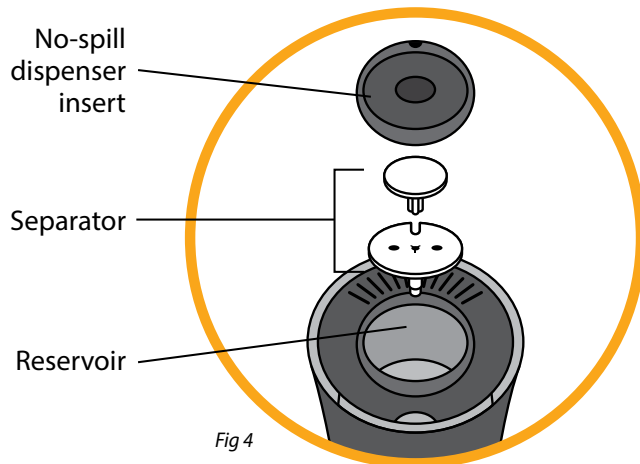

Fig 4
6. Remove the separator by pulling it straight out. Make note of the separator positioning before removing so that it can be re-installed correctly (Fig 4). Clean the insert and the separator with dishwashing soap and dry thoroughly.